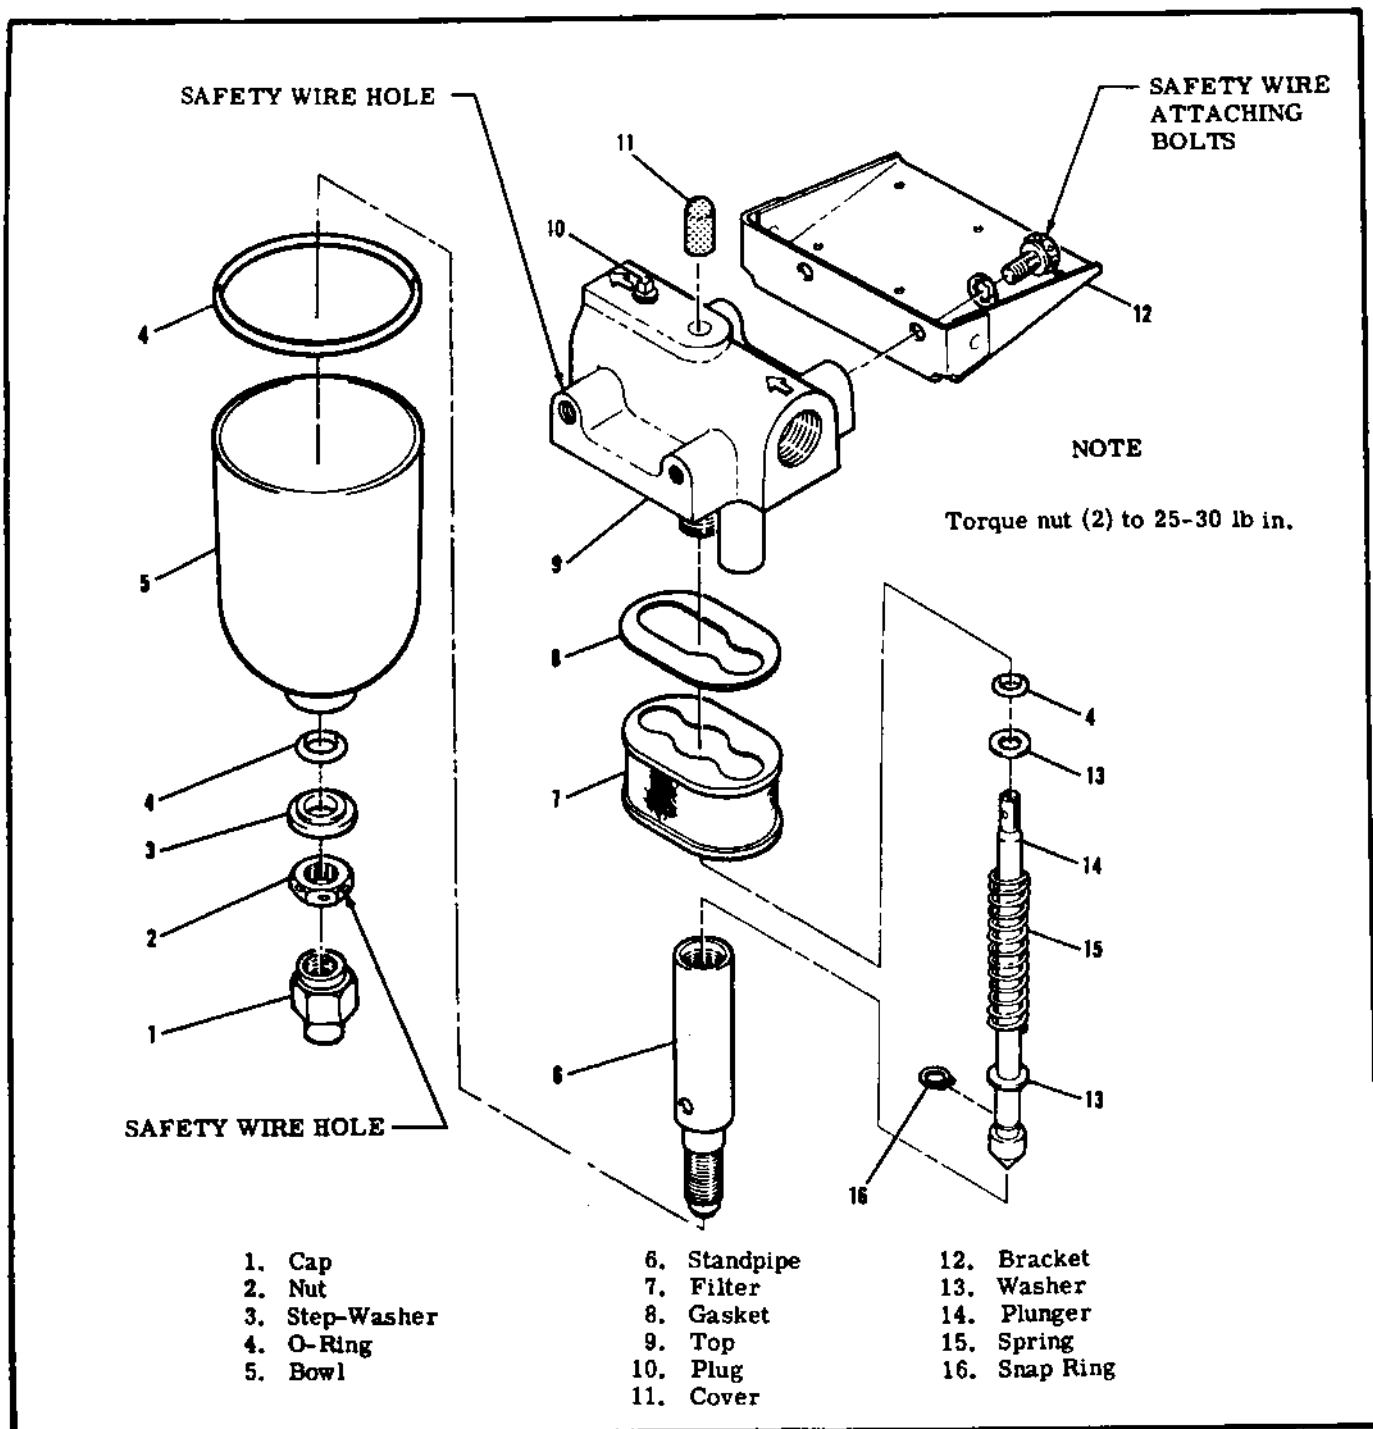

Figure 12-8. Fuel Strainer
- b. (Beginning with 177RG0283 and F177RG0063). The reservoir tank drain valve control is located in the floorboard area directly beneath the pilot's seat. The control is illustrated in figure 12-8.
2. Referring to figure 12-8, remove screws attaching extension arm (2) to arm assembly (7).
3. Remove screws attaching cover (3); remove cover.
4. Remove screws attaching angle (4) to arm assembly (7).
5. Remove nut from forward end of control (10) at angle (4).
6. Remove pin (9) from control (10) inside bracket (1).
7. Remove nut from threaded end of control (10) inside bracket (1).
11. Pull single control (10) aft out of bracket (1).